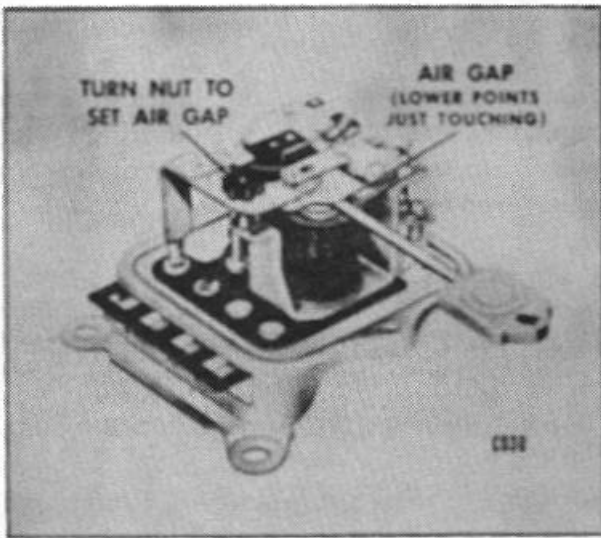

Figure 21.
2. Air Gap: Measure the air gap with a feeler gauge placed between the armature and core when the lower contacts are touching. To adjust the air gap, turn the nylon nut located on the contact support. (Fig. 21)